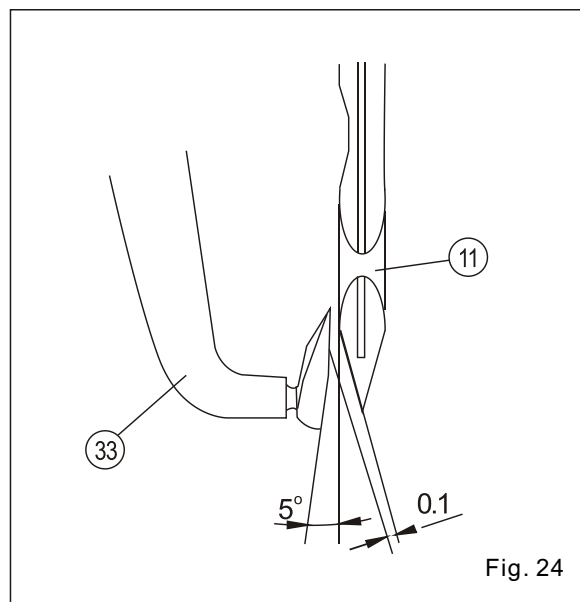

Fig. 24
(3) Upper thread hook (No. 33 in Fig. 24) forms an angle of 5° with sewing needle (No. 11 in Fig. 24), so that the sewing needle cannot be broken in return stroke, as indicated in Fig. 24